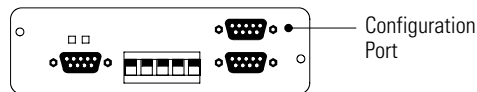

Figure 12. Configuration Port
1. Connect the supplied serial cable from the configuration port on the Modbus Card to an available RS-232 communication port on your computer (see Figure 12).